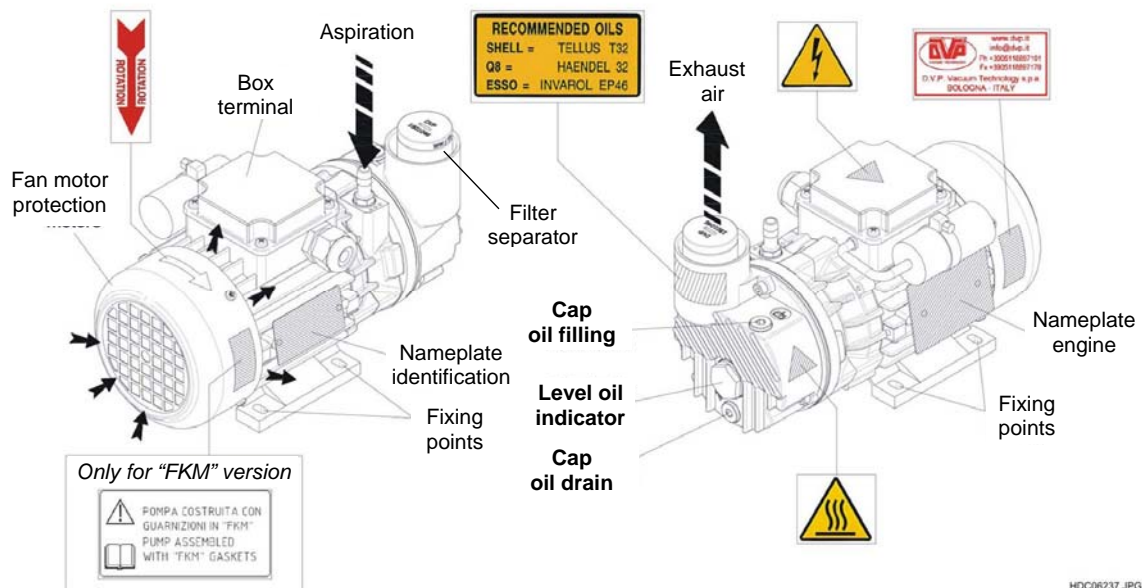

Fig. 1
- 4) Unscrew the filler cap on top of the pump (see Fig. 1 and 3);
- 3) Unscrew the filler cap on top of the pump (see Fig. 1 and 3);